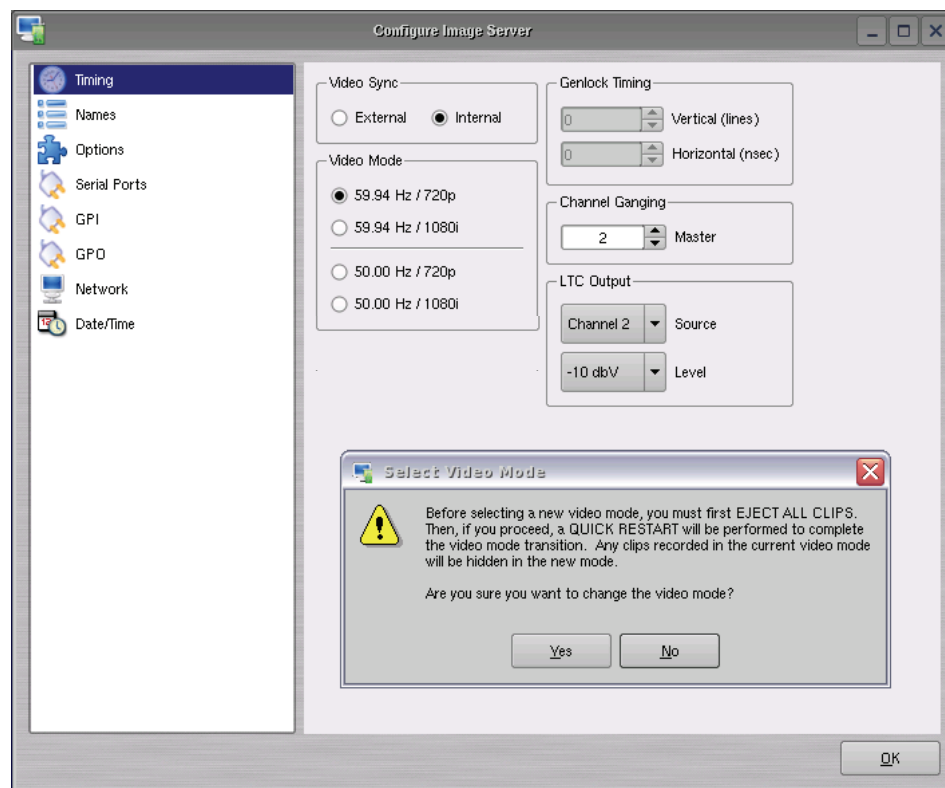

Figure 8 – Selecting Video Format
- From the main menu bar select **EDIT >CONFIGURE**. Select the **TIMING** option. The screen of **Figure 8** appears.